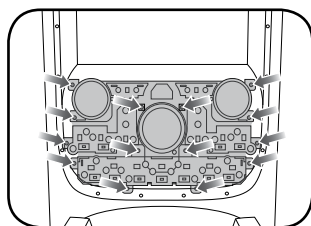

Fig. 1.6
- Remove the (14) remaining torx screws that secure the factory radio buttons. Remove the buttons from the panel. (Fig. 1.6)